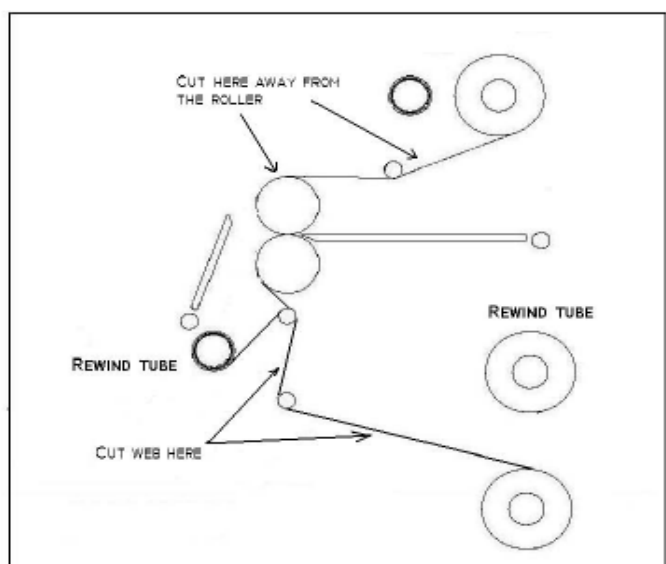

Fig. 29
4. Cut the remaining top and bottom film webs between the supply rolls and the heat rollers (Figure 29). **Be careful not to cut any of the rollers!**